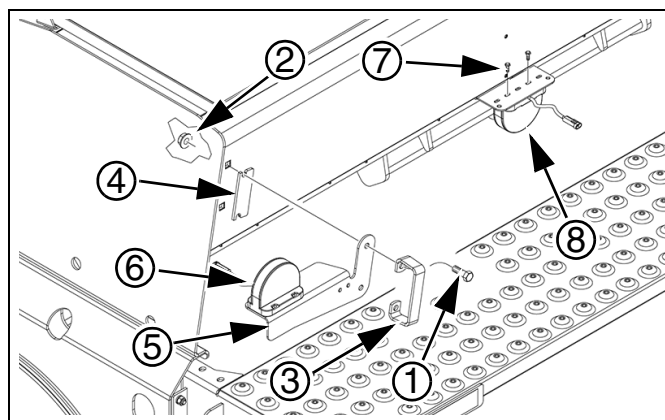

Figure 4:
**Refer to Figure 4.**
4. On the left and right sides of the machine, remove the hex flange bolts (1) and hex flange nuts (2) to remove handles (3), spacers (4), and light bracket (5) and amber LED light (6) assemblies. Keep the parts and hardware for later installation.